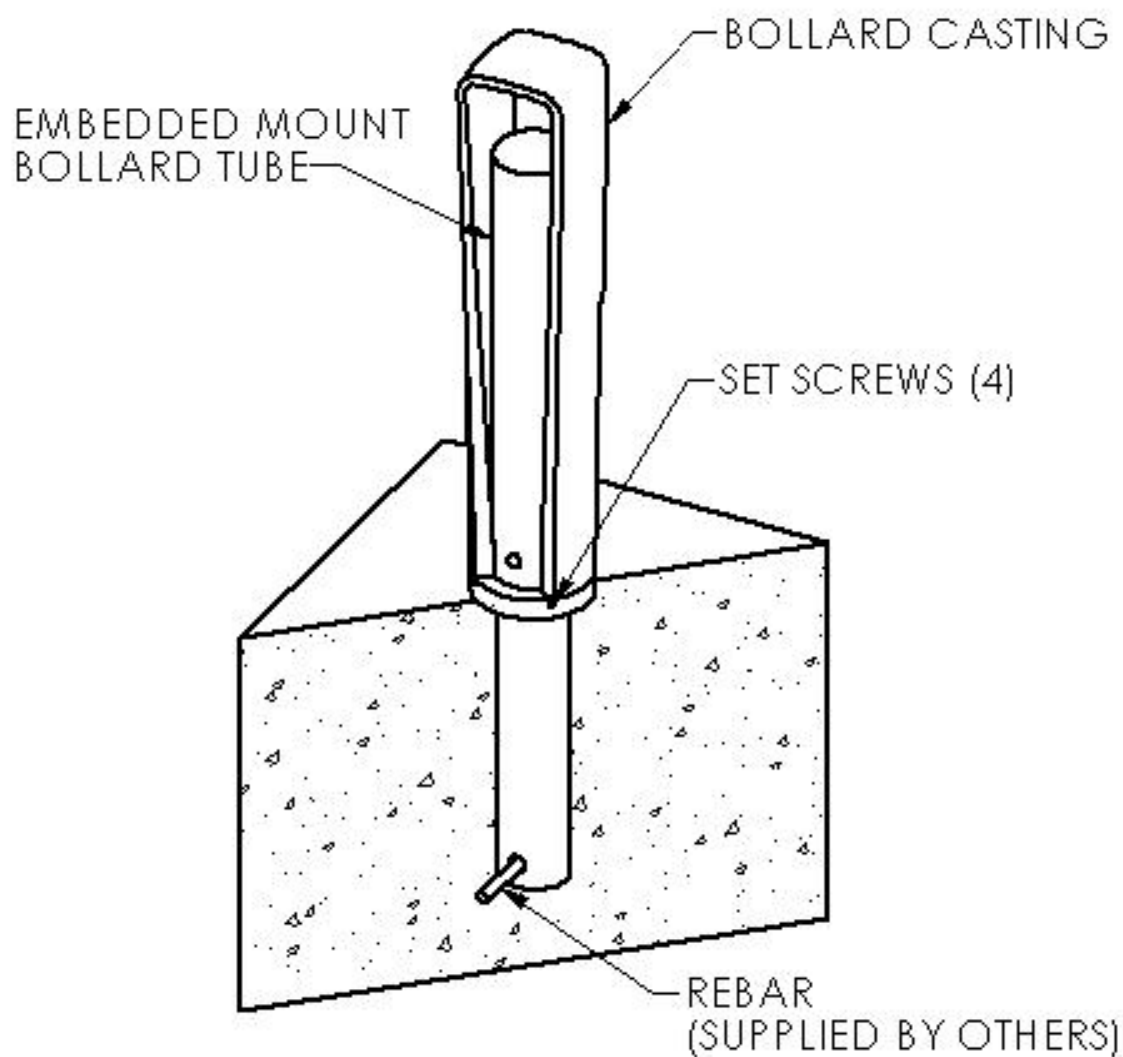

Figure 1: Embedded Mount Bollard Components
Bollards include the following components (see Figure 1):
3. Place a section of rebar (supplied by installer) through the hole near the bottom of the bollard (see Figure 1).
2. Place a section of rebar (supplied by installer) through the hole near the bottom of the bollard (see Figure 1).